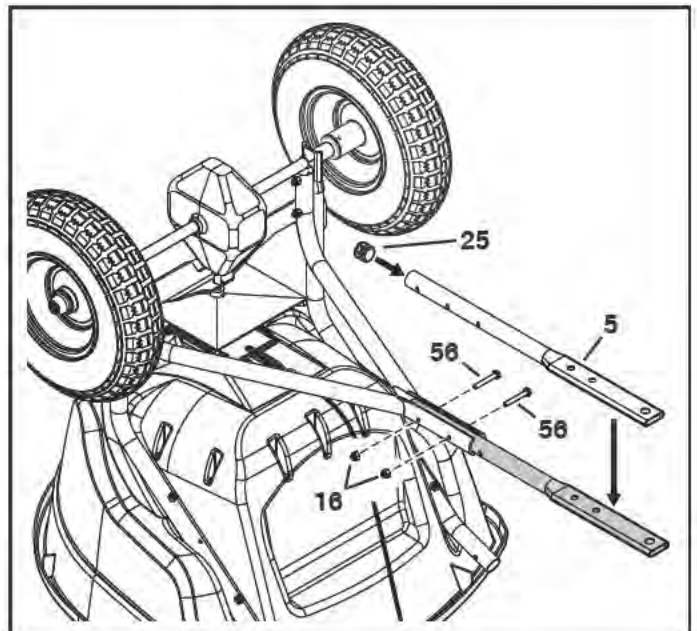

FIGURE 3
STEP 3: (SEE FIGURE 3)
- Press a tube plug (25) into the hitch tube (5).
- Assemble the back holes in the hitch tube (5) to the hitch support tubes using two 1/4 x 2" hex bolts (56) and 1/4" nylock nuts (16). **Tighten** all nuts and bolts assembled up to this point.